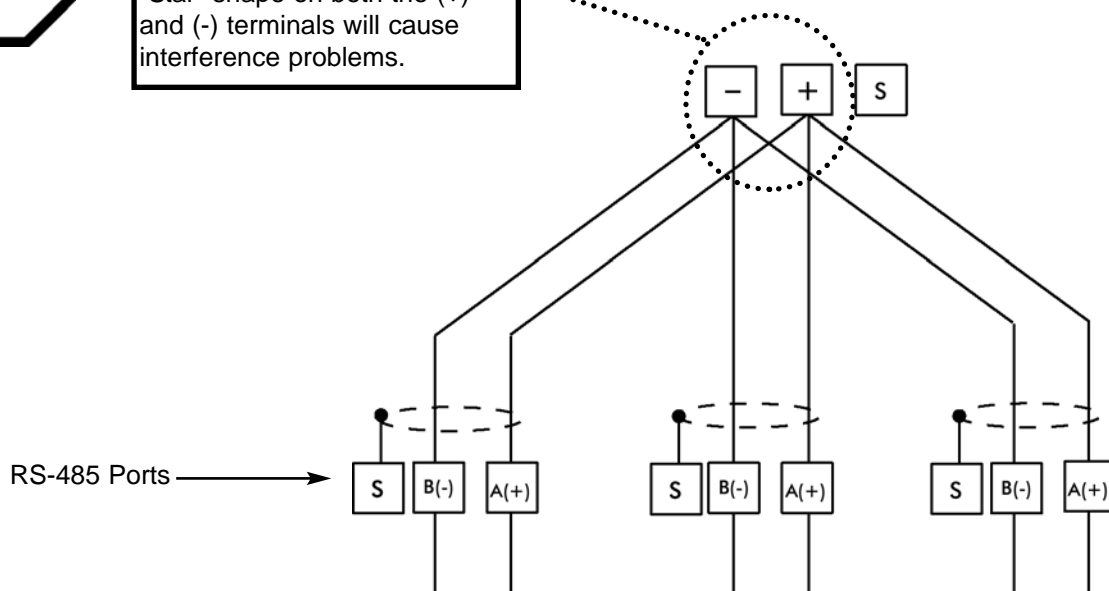

Figure 5.7: Incorrect “T” and “Star” Topologies
- Avoid both “star” and “tee” connections (see Figure 5.7). No more than two cables should be connected at any one point on an RS-485 network, whether the connections are for devices, converters or terminal strips.